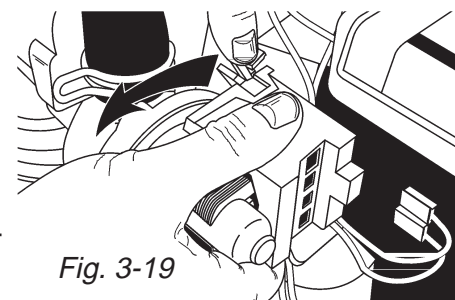

Fig. 3-19
1. With one hand, press back on the plastic tab that holds the pump motor from rotating. (Fig. 3-19)